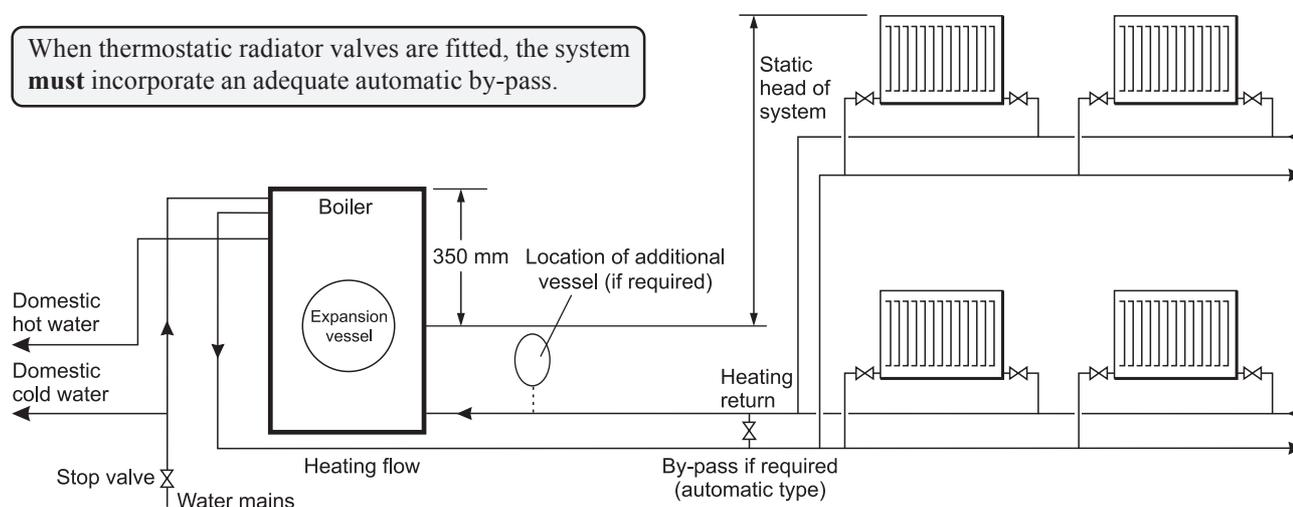

Fig. 12 - Sealed system
- 3 Refer to Sections 4.1 or 4.2 for maximum heating system volume and BS 7074: for further guidance. If the system volume **exceeds** the maximum value given for the boiler, an additional vessel will be required. This should be connected to the system on the return. Refer to Fig. 12.